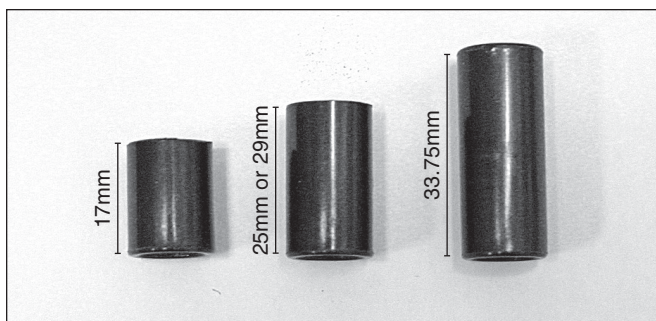
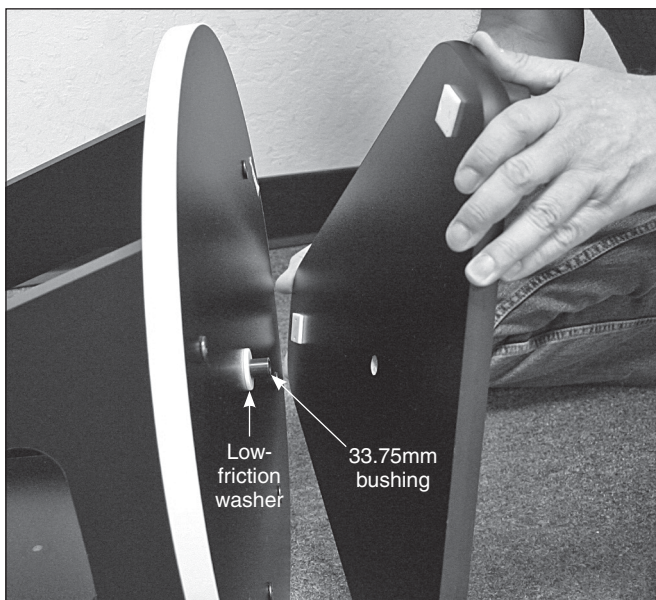

Figure 4. Three plastic bushings used in the assembly of the XT PLUS.
Figure 5. Assembly of the groundplates.
1. Screw the plastic feet (A) into the underside of the bottom (triangular) groundplate (B) using the self-tapping wood screws provided, with a Phillips screwdriver. Insert the screws through the feet and thread them into the predrilled starter holes until tight.
2. Loosely attach the front brace (C) to the two side panels (D) with six of the black base assembly screws (E) in the predrilled holes. Use the 4mm hex key to tighten the screws. The side panels should be oriented so the "SkyQuest XT PLUS" label is facing outward. Do not completely tighten the screws yet.
3. Line up one of the altitude bearing cylinders (F) with one of the four bearing cylinder holes on the inside surface of each side panel. Push a bearing cylinder screw (G) through the side panel from the outside and thread the bearing cylinder onto it. You can tighten the cylinder by hand or, if needed, with the supplied 4mm hex key. Repeat for the remaining three bearing cylinders.
4. Attach the side and front panel assembly to the top groundplate (H) with the remaining six base assembly screws in the predrilled holes. Tighten all six screws.
6. Turn the base on its side. Insert the longest (33.75mm) of the three black plastic bushings (I, see **Figure 4**) into the hole in the center of the top groundplate (H). Push the bushing in so it goes all the way into the groundplate, sticking out from the bottom surface (**Figure 5**).
7. Now place the white low-friction spacer washer (J) on the portion of the bushing sticking out from the bottom (**Figure 5**).
8. Install the bottom groundplate (B) by lining up its center hole with the nylon bushing. The white low-friction spacer
washer should now be between the two groundplates (**Figure 5**).